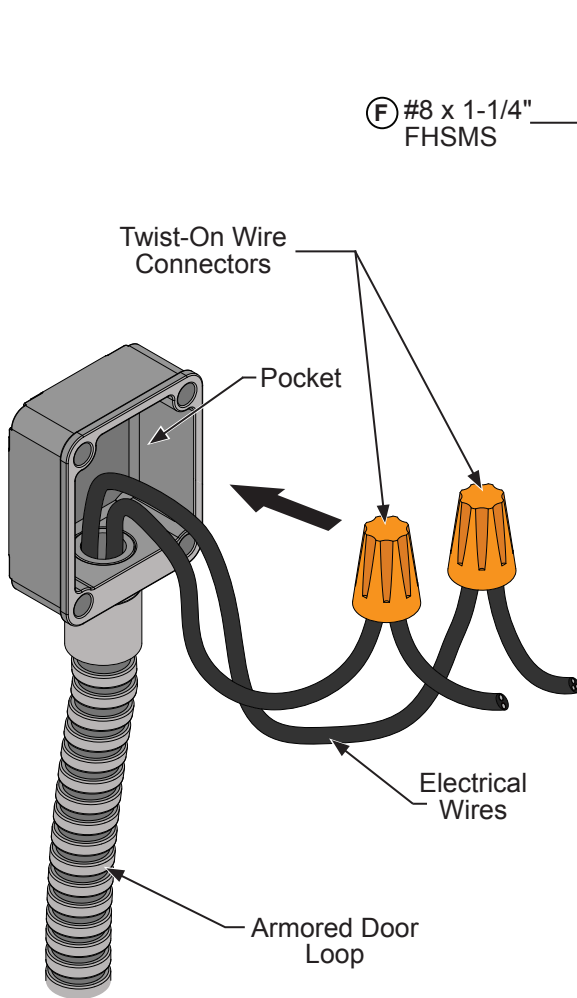

FIG. 20
After the wires are connected, slip the remaining slacking wires and twist-on connectors back into the door stile and into the pocket of the door loop. **(Fig 20)** Secure the door loop to the door stile using **(F)** (4) #8 x 1-1/4" FHSMS. **(Fig. 21)**